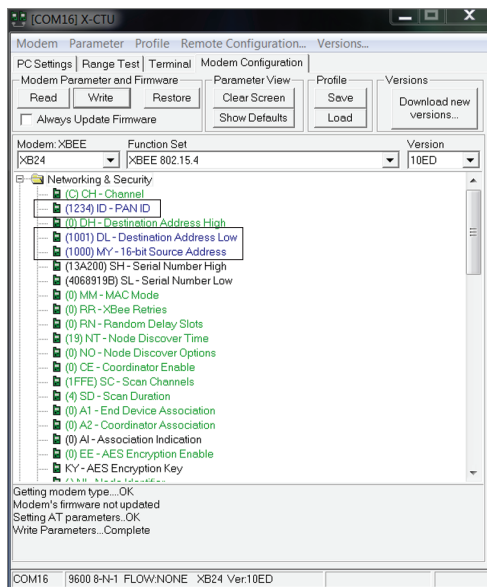

Figure 11-11: Settings written to XBee
5. Click the Write button at the top of the window to write these values into your XBee. When you do this, those values should turn blue. Figure 11-11 highlights these values.